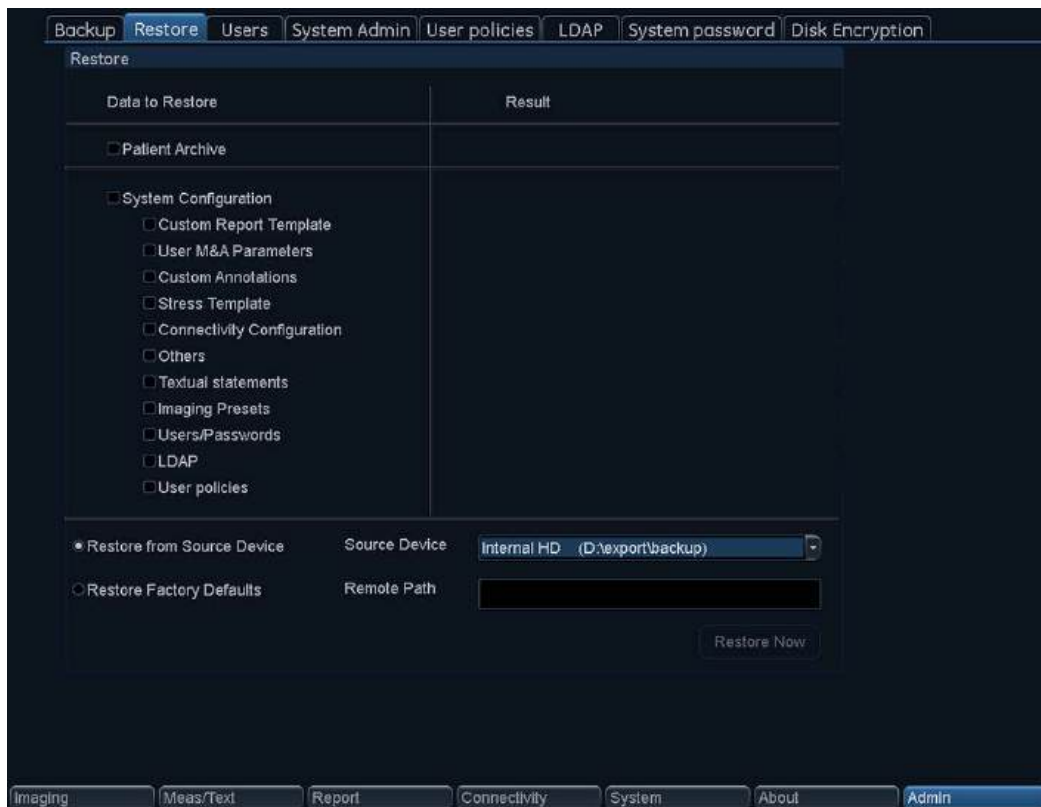

Figure 10-41. The Restore sheet
- One or several **system configuration items** to restore parts of the system settings and user presets (see Figure 10-41).